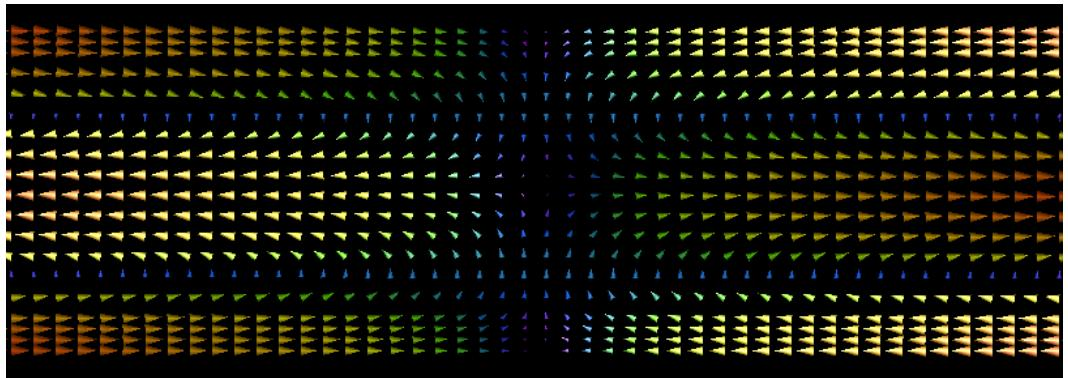

Figure 5.31: Magnetic Fields in the ZX Plane (detail near the center of the waveguide, rotated  $90^\circ$ )
- Comparing figure 3.9 in the reference to the zoomed in view of the fields shown in Figure 5.31 we see that in both cases, H-field vectors point inward toward the central nodal point from the top and bottom (+X and -X directions), and outward from the central nodal point from the left and right (-Z and +Z) directions.